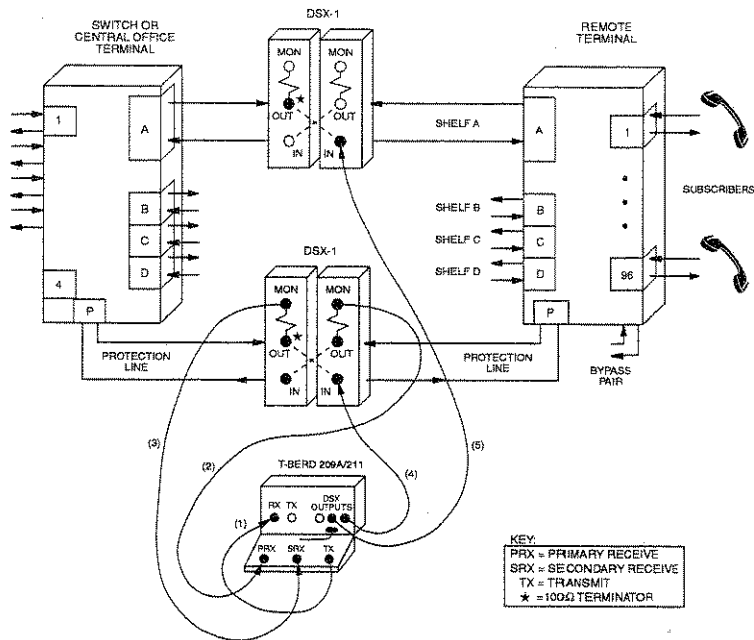

Figure 23
Connect a cable (1) from the T-BERD 209A/211 RECEIVE jack to the T-BERD DLC Analyzer Option TRANSMIT jack (see Figure 23).
If at the CO, connect cables as follows (see Figure 23):